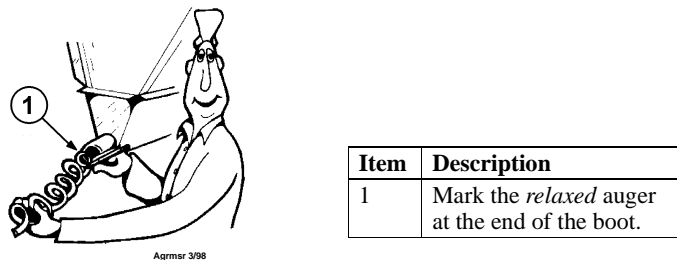

Figure 53. Measure the Auger from the relaxed position
7. Pull the auger at the boot end until it begins stretching. Then let it relax. In the *relaxed* position, mark the auger at the end of the boot. See Figure 53.